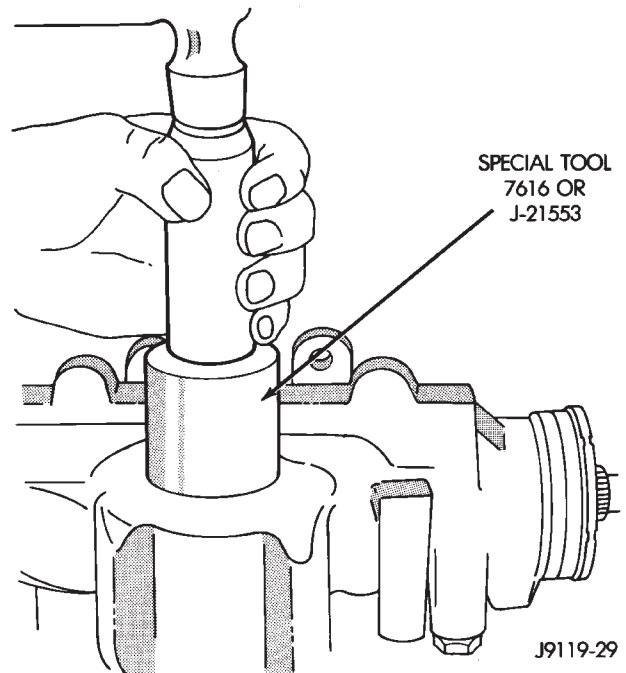

Fig. 38 Pitman Shaft Seal Installation
- (2) Install single lip seal with Installer or a suitable size socket (Fig. 38).
- (3) Coat the double lip seal and washer with grease.
- (4) Install the backup washer.
- (5) Install the double lip seal.
- (6) Install the backup washer.